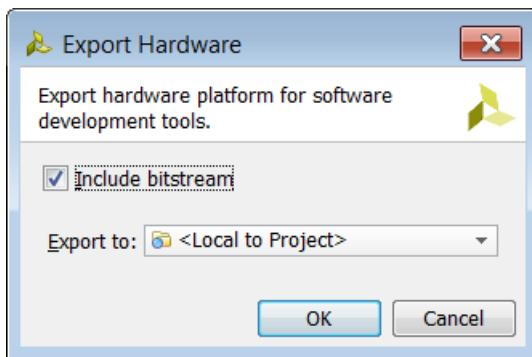

Figure 10-21: Export Hardware Dialog Box
2. In the Export Hardware for SDK dialog box (Figure 10-21), ensure that the **Include Bitstream** is enabled and click **OK**.